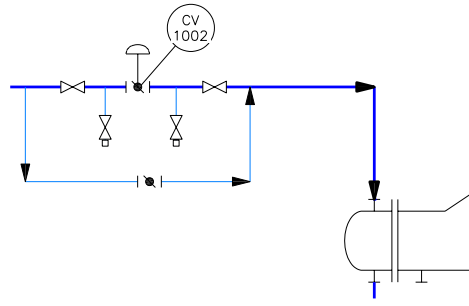

Figure 2-66 Gate valves placed on the secondary lines
14. Next, delete the arrows on the secondary lines and place gate valves, as shown in Figure 2-66.